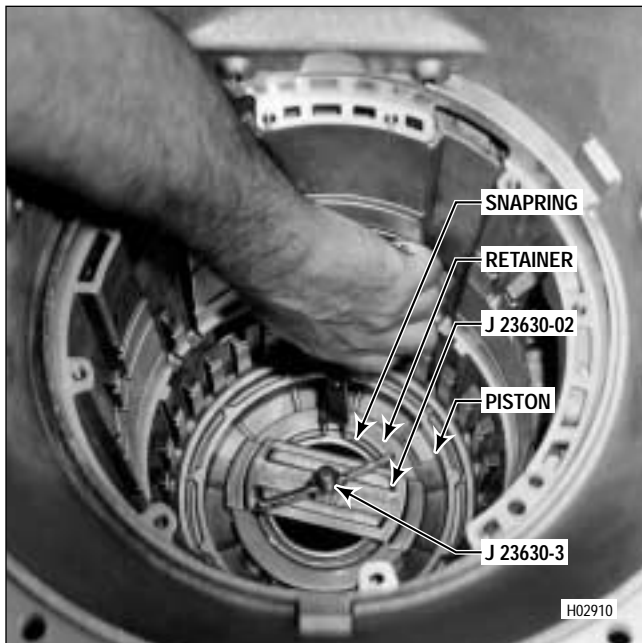

Figure 7-2. Installing First Clutch Spring Retainer Snapping
(5) Install twenty-two springs into the recesses in the piston. Install the spring retainer onto the springs (Figure 7-2).
(6) Lay the spring retainer snapping on the spring retainer (Figure 7-2).
(7) Install spring compressor assembly J 23630-02 into the rear bearing bore of the transmission housing (Figure 7-2). Check the springs for proper alignment.